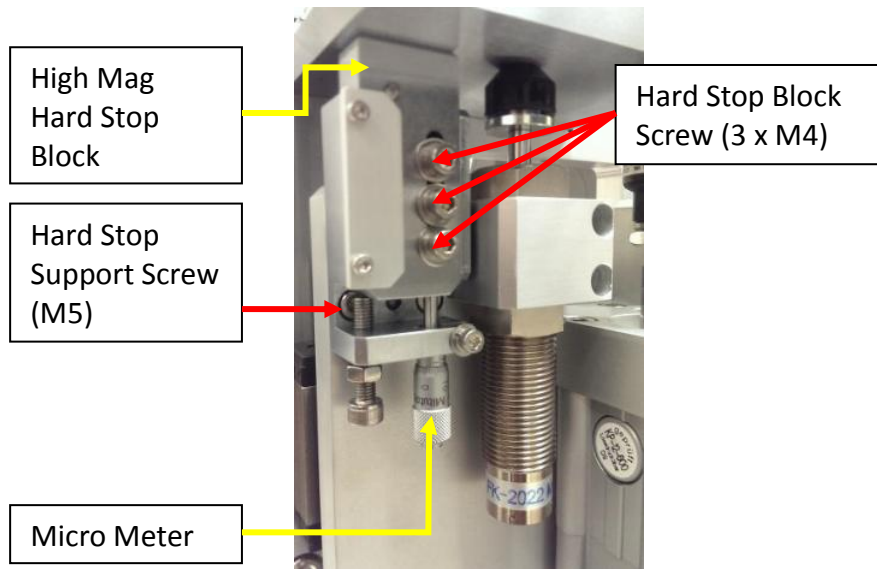

Figure 21 (New Rev)
27. High Mag Hard Stop and screws as Figure 21.